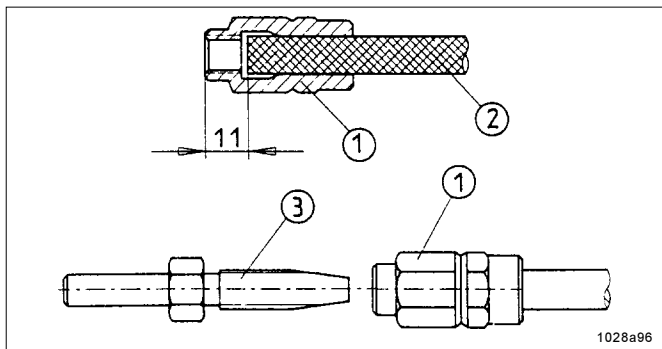

Fig. 39 - Preassembly of the threaded sleeves and hose studs on the high-pressure plastic hose
- Screw the threaded sleeve (item 1 Fig. 39) counterclockwise onto the high-pressure plastic hose (2) until the illustrated dimension of 11 mm is reached. Then screw the hose stud (3) into the threaded sleeve (1).